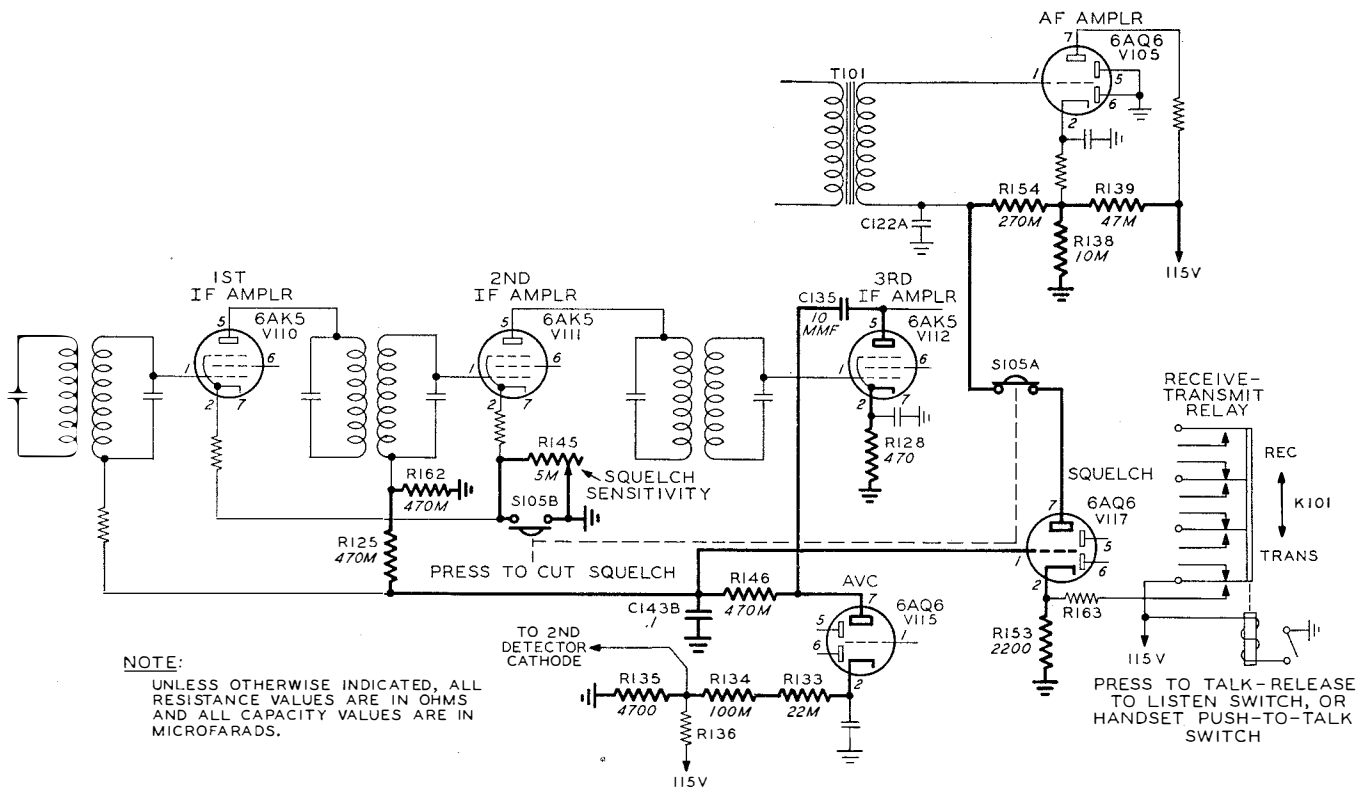

Figure 4-15—Audio Squelch Circuit
—The detector circuit employs a Type 6C4 triode tube, V116. The voltage output of the third IF amplifier stage is coupled by transformer T108 to the detector grid. The rectified current flow through the diode load resistors, R133 and R134, develops the voltage necessary to operate the noise limiter tube and the audio amplifier. This diode load voltage, when of sufficient magnitude, also causes the AVC circuit to function and disables the squelch circuit by opposing the delaying bias voltage in the cathode circuit of the AVC tube, V115. (See figure 4-15 in this section.)
(5) SQUELCH CIRCUIT. (Refer to figure 4-15.)—The squelch circuit employs the triode section of a Type 6AQ6 diode-triode tube, V117. Plate voltage for the squelch tube is supplied by a voltage dividing circuit consisting of resistors R138 and R139. The voltage is fed through resistor R154. Resistor R154 is common to the squelch plate circuit and the AF amplifier grid circuit, therefore, voltage devel-